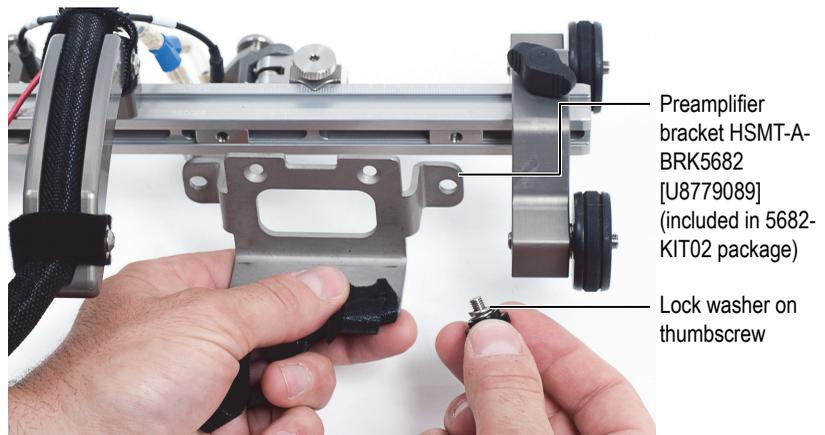

Figure 1-22 Securing the preamplifier bracket
4. Insert a lock washer on each preamplifier bracket thumbscrew (see Figure 1-22 on page 25).
5. Secure the preamplifier bracket to the dovetail nuts using the thumbscrews (see Figure 1-22 on page 25).